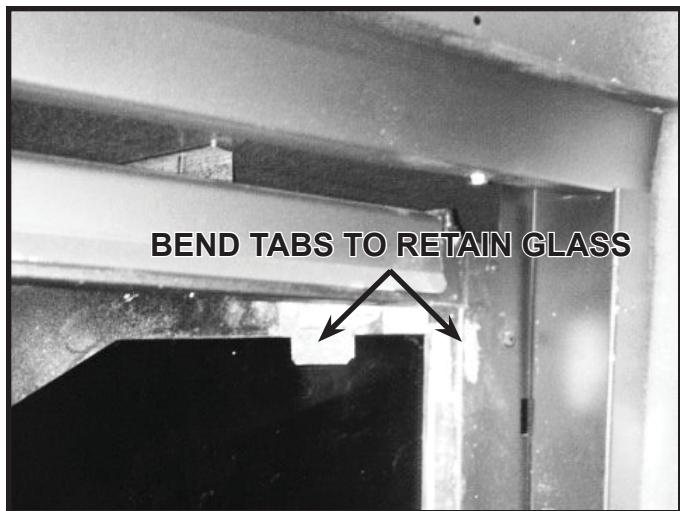

Figure 8, Right Refractory Tab
7. Bend tabs over to retain glass. See Figure 8.